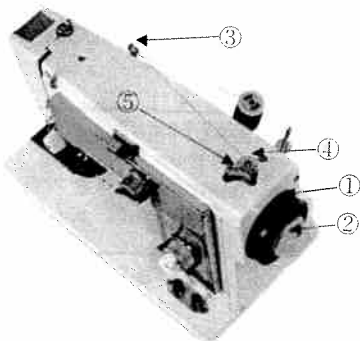

Fig. 4
Disengage the hand wheel (①, Fig.4) from the stitching mechanism by turning the clutch (②, Fig.4) toward you or counter clockwise. Place a spool of thread on one of the spool pins and lead thread around one set of arm thread guide (③, Fig. 4). Run end of thread through a hole in the bobbin edge and place bobbin on spindle of bobbin winder (④, Fig. 4) fitting the notch on bobbin over small pin on spindle. Push bobbin winder lever (⑤, Fig. 4) against bobbin. Hold thread end loosely and start machine slowly.